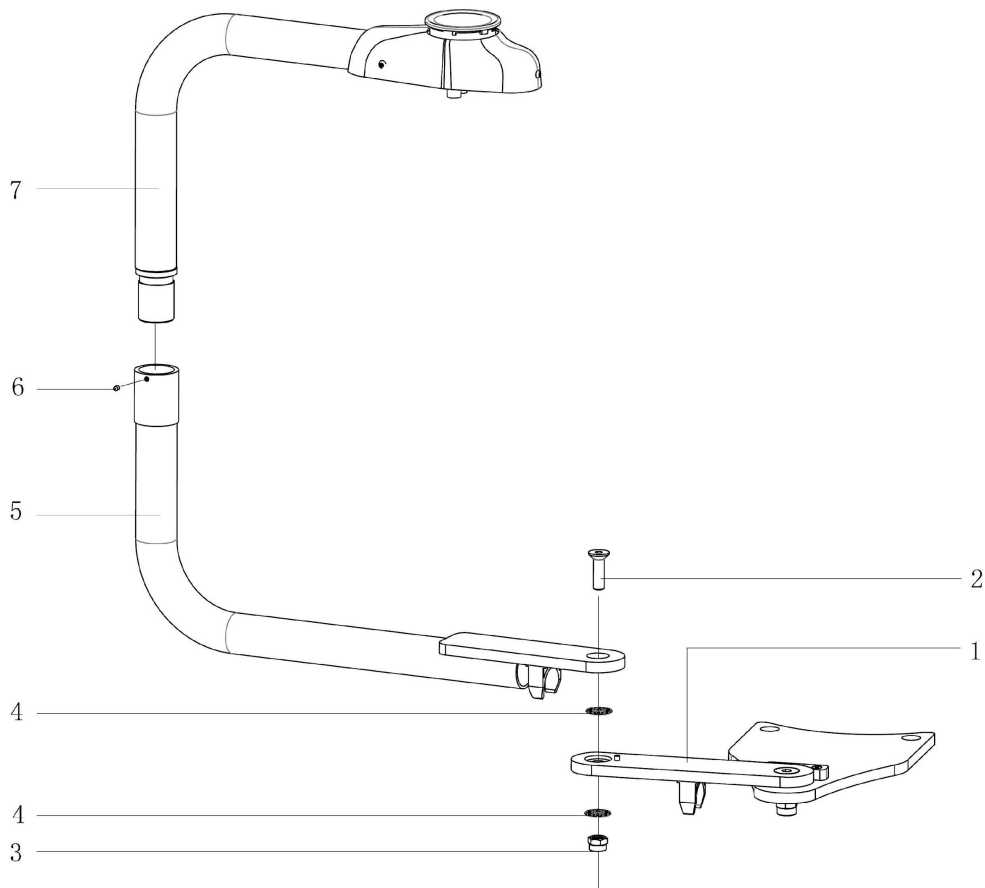

Figure 13. Assistant's system upper and lower elbow installation
1. Put two flat bearing washers ④ on top and bottom of the rear pivot chair adapter ①.
2. Put the assistant's system lower elbow ⑤ on top of the rear pivot chair adapter ①.
3. Install the lower elbow ⑤ to the rear pivot chair adapter ① with the flathead screw ②, flat bearing washers and the nylon lock nut according to Figure 13.
4. Insert the assistant's system upper elbow ⑦ into the lower elbow ⑤. Slightly tighten the set screw ⑥ to allow rotating movement with the lower elbow. Rotate the upper elbow several times to make sure the rotation movement is smooth and secured.